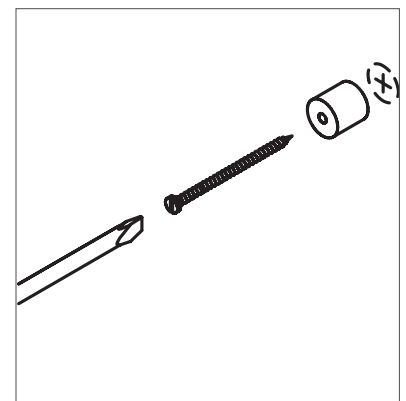

Fig 6.0
- Screw the mounting inserts securely to the wall at the locations marked. see Fig 6.0